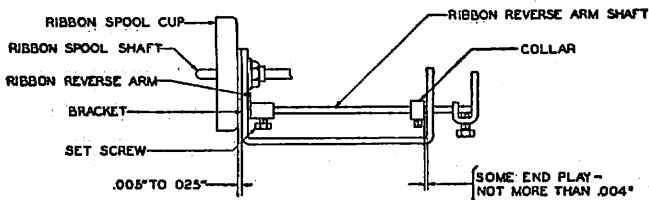

Fig. 24
\* (a) Left ribbon reverse arm shaft shall clear the ribbon spool cup by min. .005", max. .025" (Fig. 24) when the reverse arm is held against the ribbon spool bracket to make this clearance a minimum.
4.38 **Left ribbon reverse arm shaft** shall have perceptible end play not to exceed .004". See Fig. 24.